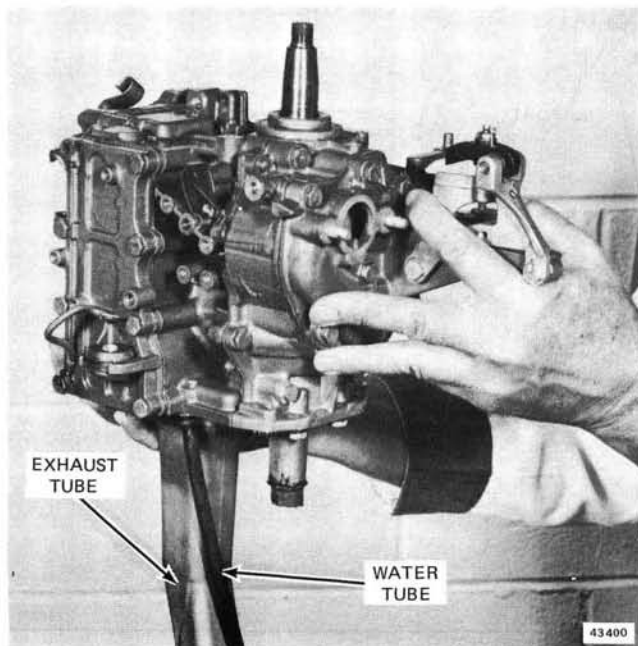
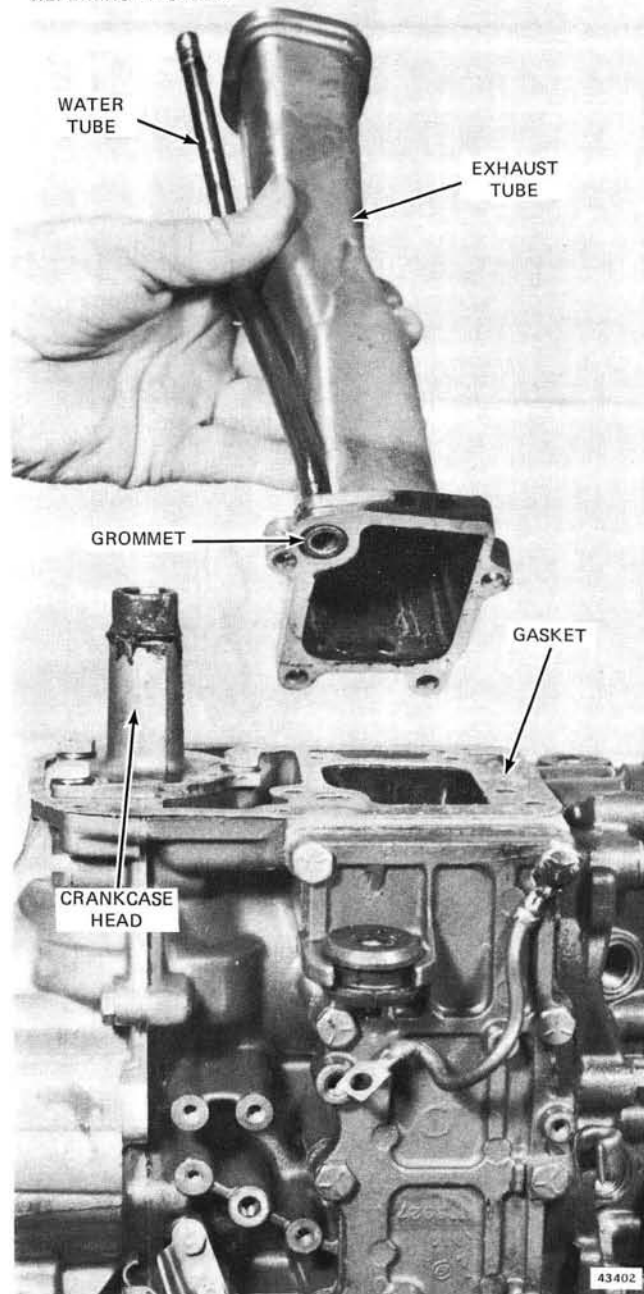

Figure 5-8. Removing Power Head
Figure 5-9. Removing Exhaust Tube and Water Tube Assembly
e. Lift power head from exhaust housing. See Figure 5-8. Place power head on bench in a suitable holding fixture such as OMC Special Tool #303605, and remove exhaust and water tube assembly. See Figure 5-9.